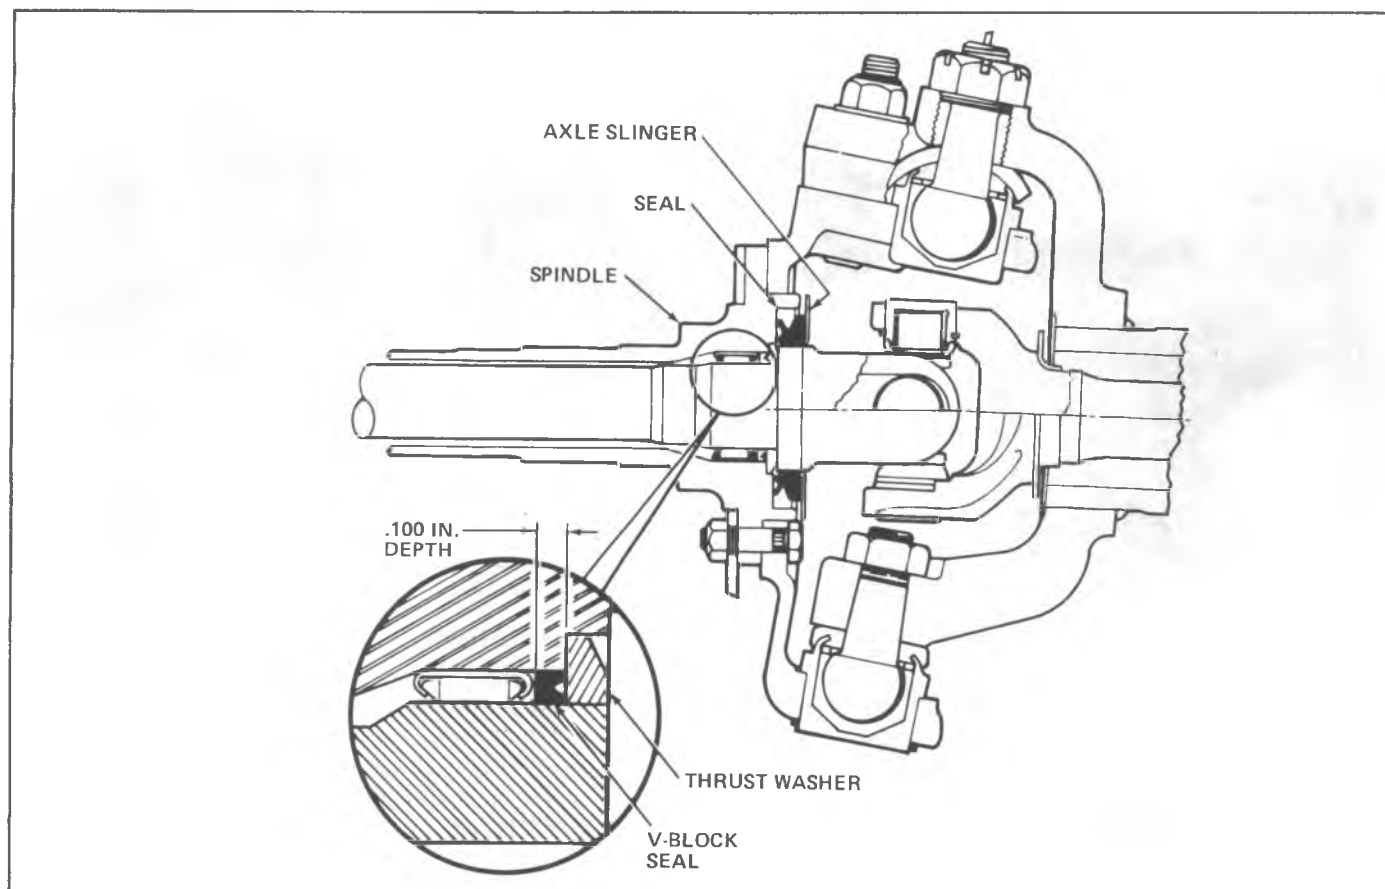

Fig. 3C-7K--Front Spindle Grease Seals
3. Remove the spindle and thrust washer by tapping the end of the spindle lightly with a soft hammer to break it loose from the knuckle as shown in Figure 3C-6K. Replace the thrust washer if excessive wear has occurred.
When servicing the spindle check the spindle grease seals (Fig. 3C-7K).